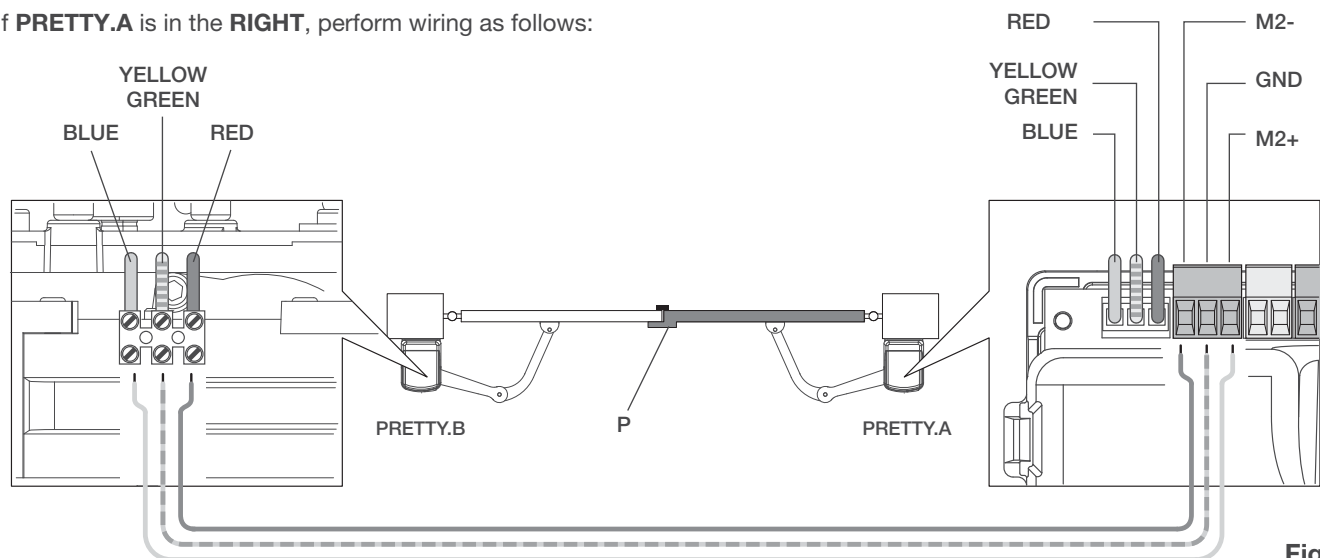

Fig.27
If the leaves have a profile similar to that highlighted in detail P in figure 27/28, keep in mind that the opening manoeuvre always starts with the PRETTY A motor, while the closing manoeuvre always starts with the PRETTY.B motor. If the profile is in the leaf of the PRETTY.B motor, this sequence can be inverted by means of the MINV function.
b) the leaf that has a profile (Fig.27/28, ref-P) must be the last to close.
In gates that have a profile (figure 27/28 - part.B), a phase shift time must be set between movements in order to prevent contact between the leaves.
Invert the leaf opening and closing sequence, in the presence of a profile (Fig 27/28 ref. P).